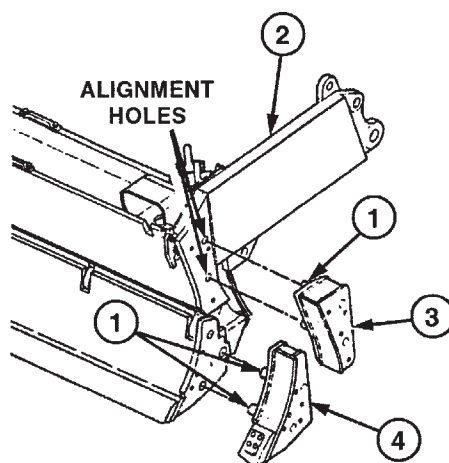

Figure 33. Apron and Dozer Extensions.
Step 15a applies to Figure 33.
- a. Align dowels (1) with holes in each side of apron and dozer assembly (2). Seat apron extensions (3) and dozer extensions (4) with hammer and wood block.